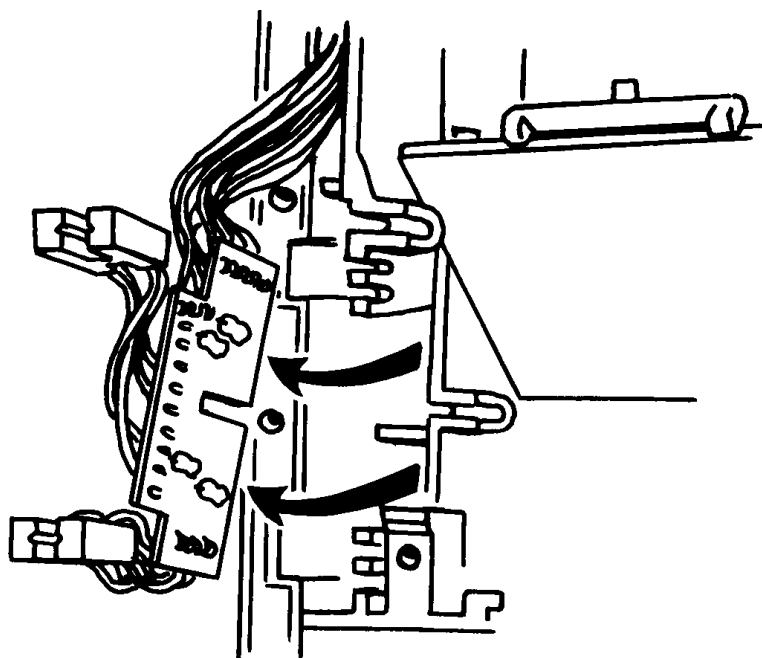

Figure 4-28 Sliding Sensor Board Up and Out
- 18.3 Slide Sensor Board with attached Sensors up and out. (Fig. 4-28)